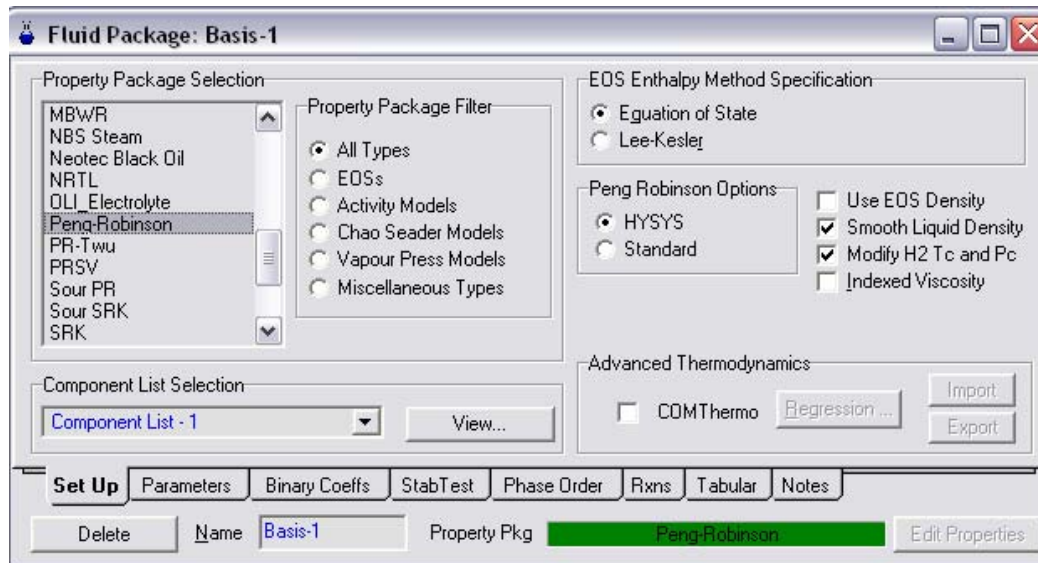

Figure 1-4
5. You can give your fluid package a name at the bottom of the fluid package screen (e.g. the name in Figure 1-4 is **Basis-1**).